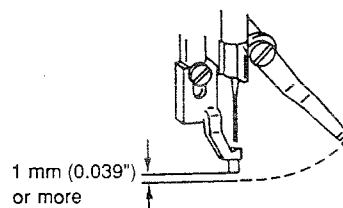

Fig. 5-10-2
- 3) Make sure to have more than 41mm (1.614") clearance between the end of the wiper and the needle point. Refer to Fig. 5-10-2 (SW 6-7 ON)
See Fig. 5-10-2**